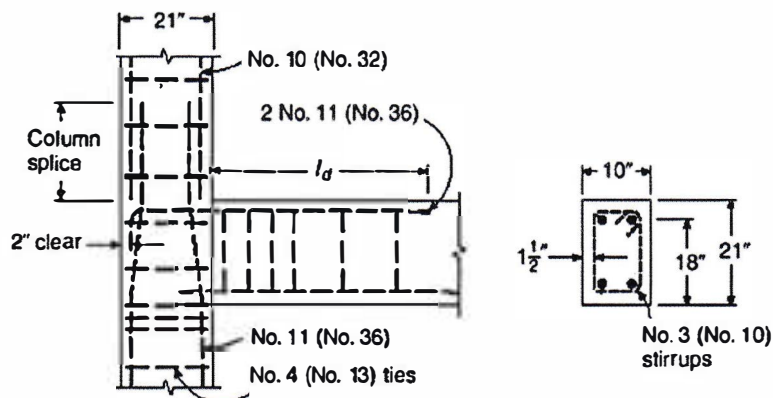

Figure: 4
8. A beam section as shown in **Figure: 4** is made of normal density concrete and reinforced with 2-#11 (10) bars ($d_b = 1.41\text{in}$, $A_s = 3.12\text{in}^2$), whereas the reinforcement required from structural analysis is 2.90in^2 , in addition to 4-#3 stirrups @ $3\text{in}/\text{c}/\text{c}$, followed by #3 stirrups @ $5\text{in}/\text{c}/\text{c}$. Calculate the development length l_d of the bars using detailed equation provided by ACI [see **Table 1** attached].